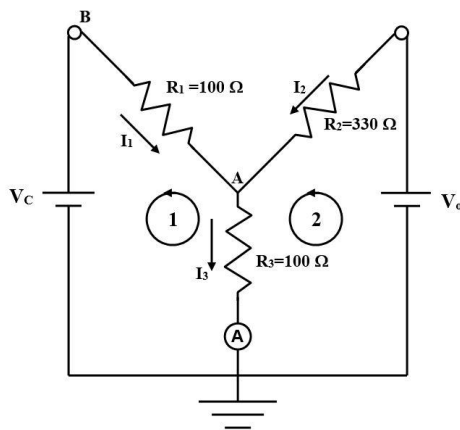
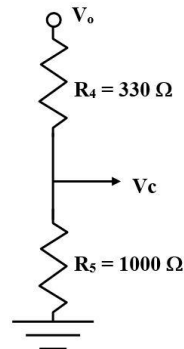

Figure 1: "Y" Circuit
Figure 2: Voltage Divider
3. Looking at Figure 2 in the lab below, express  $V_C$  as a fraction of  $V_0$ .
We will apply Kirchoff's rules to the "Y" circuit shown in Figure 1.  $V_o$  will be the supply voltage from Output 1 of the 850 Universal Interface.  $V_C$  will be produced by the voltage divider setup shown in Figure 2. We will not attempt to calculate  $V_C$ , but will measure it directly. To solve for the three unknown currents, we need three equations. Applying Equation 1 at point A in the circuit: